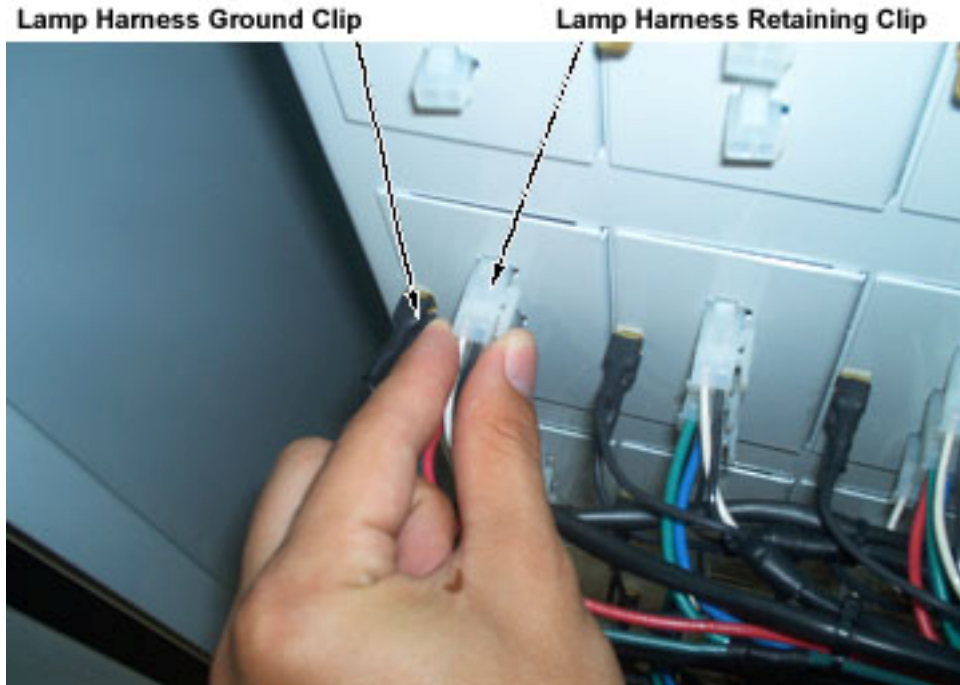
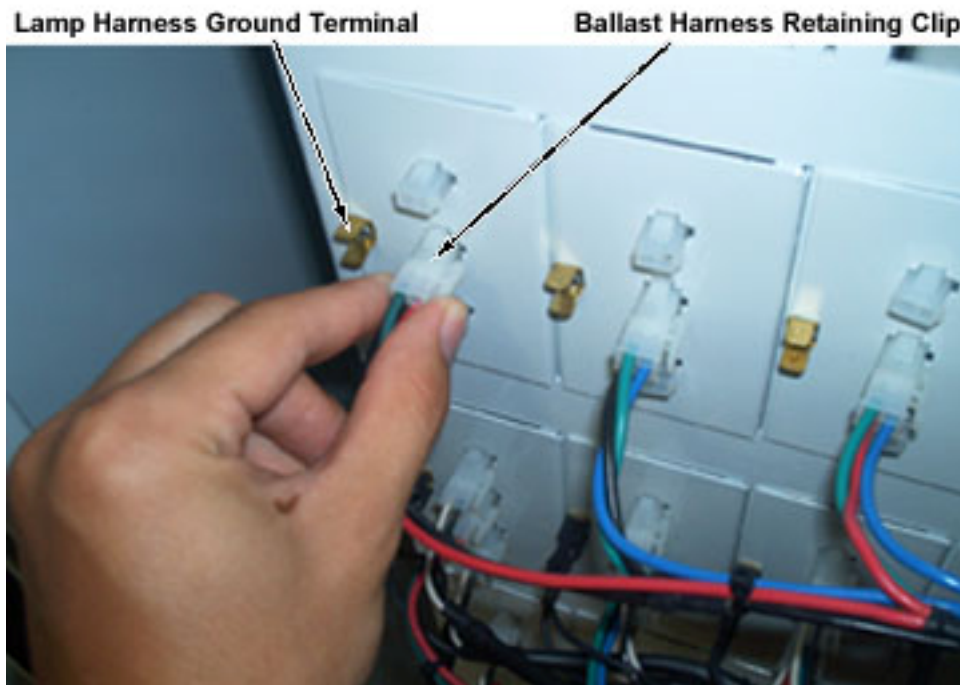

Figure 9: Unclipping Lamp Harness Detail
Figure 10: Unclipping Ballast Harness Detail
2. Disconnect lamp and ballast harnesses starting away from the lamps (Figure 9: Unclipping Lamp Harness Detail & Figure 10: Unclipping Ballast Harness Detail).